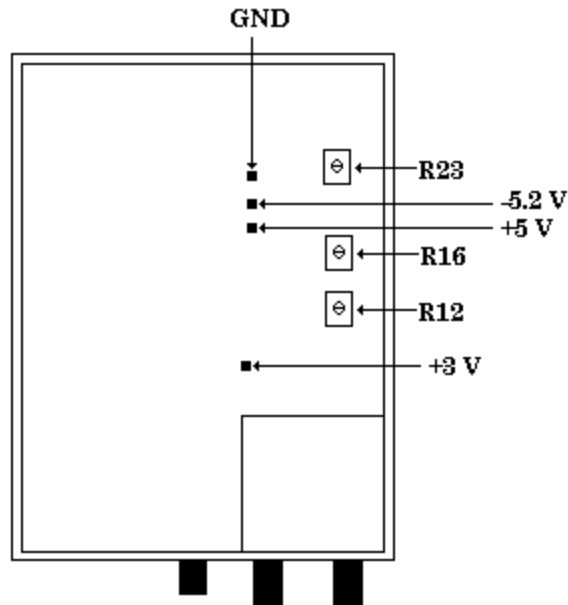

Figure 1. Test instrument - top view.
(1) Connect multimeter **INPUT HI** to +5 V (fig. 1) and **LO** to GND (fig. 1). If multimeter does not indicate between +4.99 and +5.01 V dc, perform **b(1)** below.
(2) Connect multimeter **INPUT HI** to +3 V (fig. 1). If multimeter does not indicate between +2.99 and +3.01 V dc, perform **b(2)** below.
(3) Connect multimeter **INPUT HI** to -5.2 V (fig. 1). If multimeter does not indicate between -5.19 and -5.21 V dc, perform **b(3)** below.
- (1) Adjust R16 (fig. 1) for +5 V dc (R).
- (2) Adjust R12 (fig. 1) for +3 V dc (R).
- (3) Adjust R23 (fig. 1) for -5.2 V dc (R).